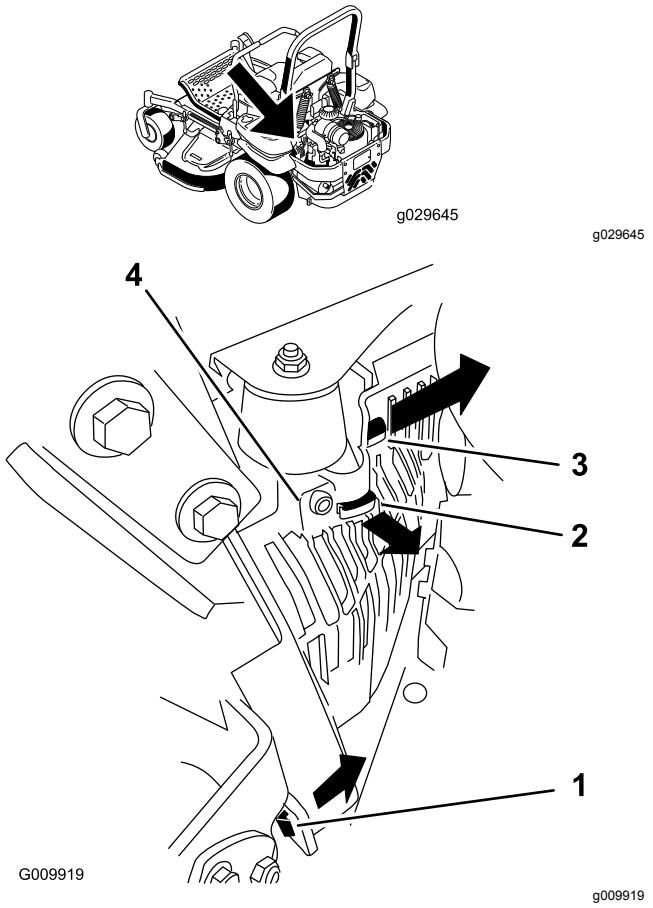

Figure 55
3. Remove the left hand hydraulic-unit shroud in the order listed in Figure 55.
5. Install the left hand hydraulic-unit shroud (Figure 55).